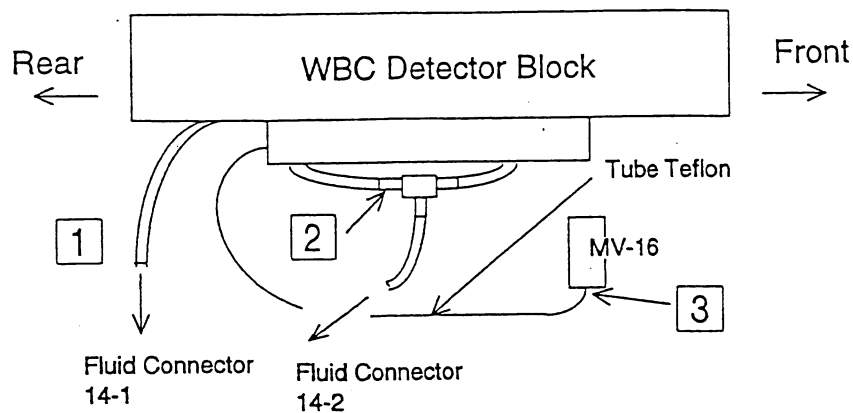

Figure 1 Removing Tubing
- ① Disconnect tubing connected to Master Valve MV-16 (3). Aspirate approx. 5 mL of CELLCLEAN into a syringe (Figure 1).
- ② Disconnect tubing connected to T Joint (2). Place tissue, gauze, or disposable cup under this tubing to receive liquid spill. Connect the syringe which is aspirated CELLCLEAN to the tubing (3). Clean the Nozzle by pushing and pulling the syringe approx. 10 times.